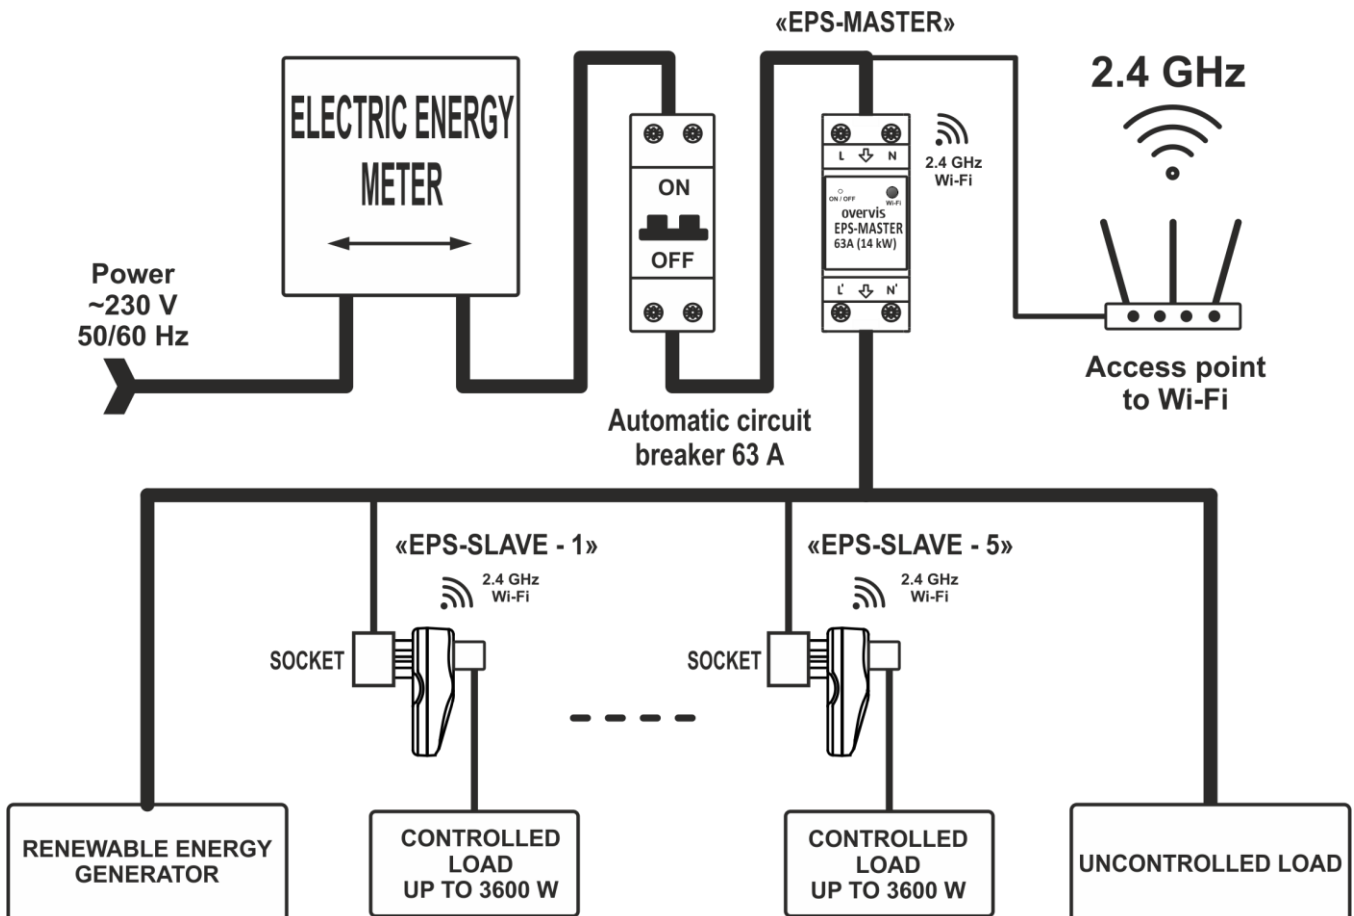

Fig. 3 – «EPS» connection diagram
3.2.1 Switch off the supply voltage with the circuit breaker (Fig. 3).
3.2.2 Connect the «EPS» according to the diagram shown in Figure 3 and check for correct connection.